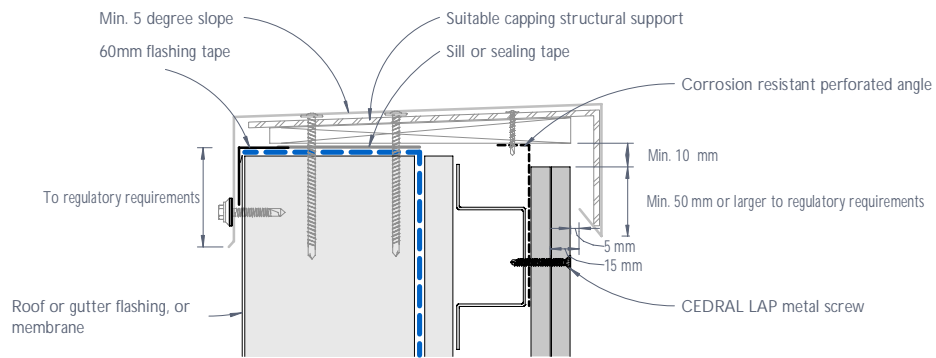

Figure 33: CEDRAL LAP typical capping detail
- 2) Capping shall be designed and engineered accordingly to provide adequate allowance for ventilation as shown in Figures 33 & 34.